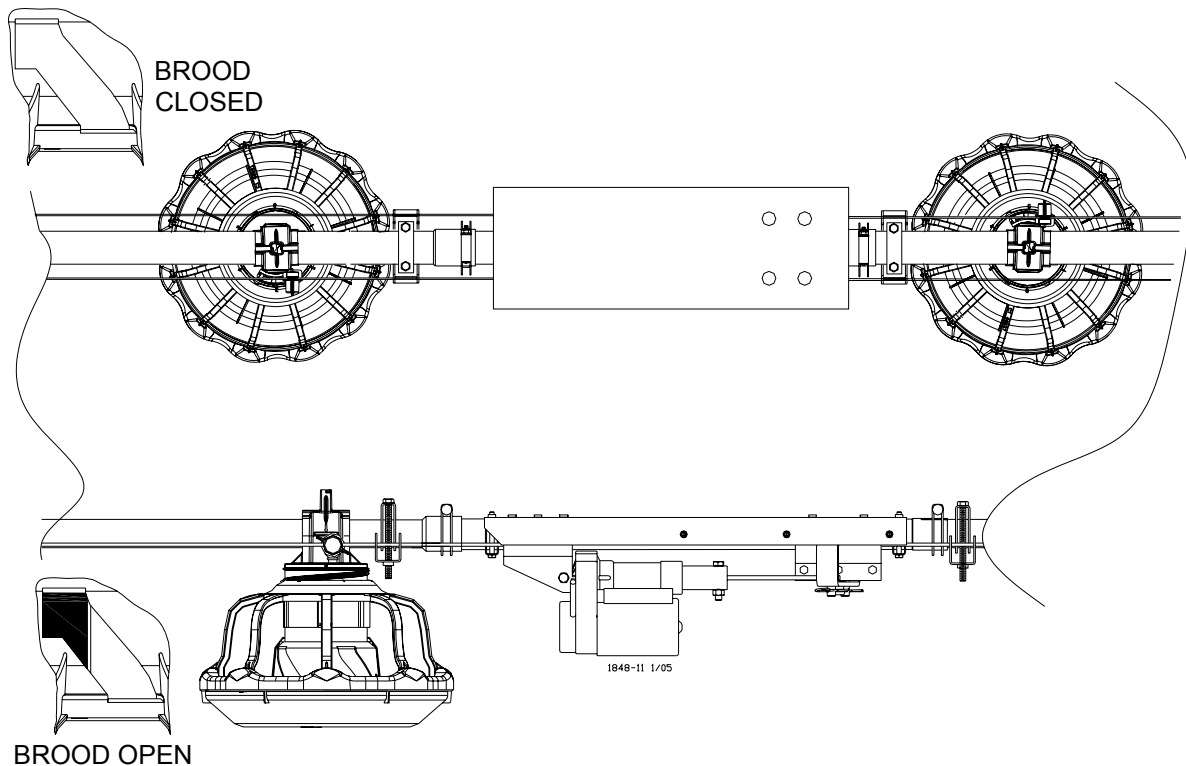

Figure 65. Adjusting the Vari-Brood opening
11. Install the Poultry Trainer or Line Charger, as shown in **Figure 65 or 66**.
The Poultry Trainer is used to power all Anti-Roost lines in a house. See **Figure 65**.